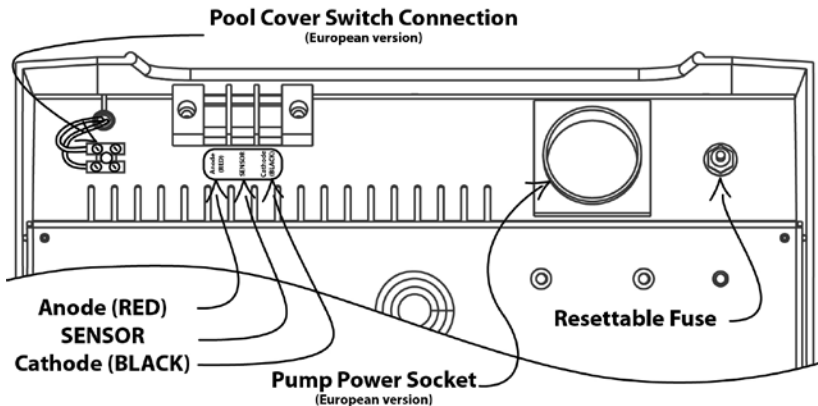

Figure 3.3
When connecting the cell, there are 3 connections Anode (RED), Cathode (BLACK) & the Sensor (WHITE). (Refer to following diagram in Figure 3.3).
(G) “POOL COVER CLOSED” LED - A function only available in some models, indicates when an external switch has been switched on by closing the pool cover. In this condition, the chlorinator reduces production by 50%. The external switch is connected to the chlorinator via a DC power socket shown in figure 3.3. The DC power connector is also supplied with these models.
This model of chlorinator comes with a resettable fuse, located as shown in figure 3.3. Pressing the red button can reset the fuse. If the fuse is unable to be reset, turn off the power to the unit, unplug it & call an authorized service technician.